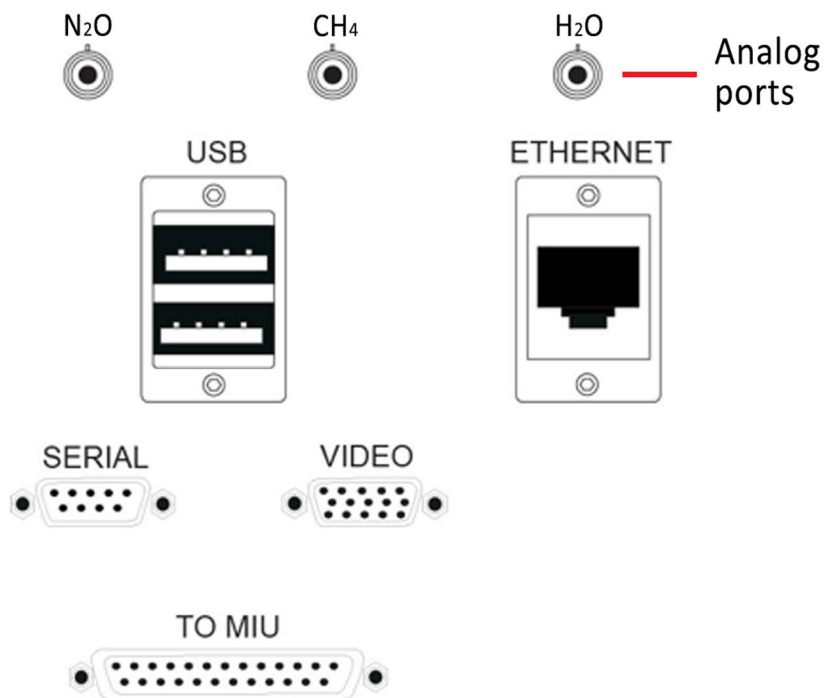

Figure 5: Data Interface Connection Ports (GLA351-N2OCM)
Figure 5 shows an example of the *Data Interface Connection Ports* of a GLA351-N2OCM.
1. See Figure 5 for a detailed description of the connections.